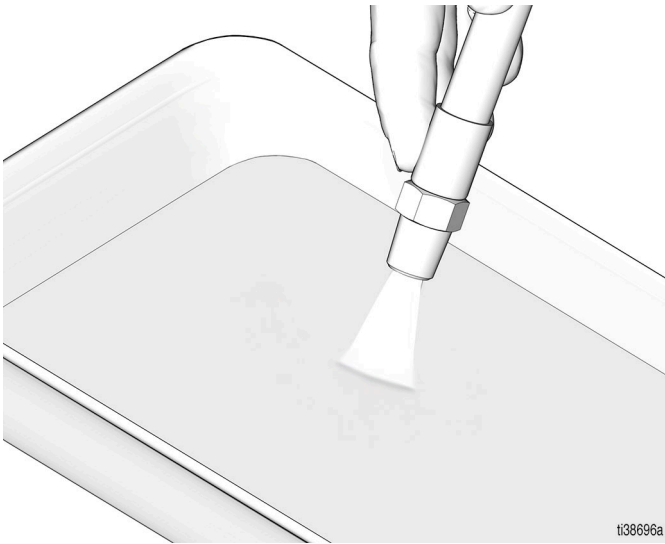

FIG. 4
3. Flush the fluid being dispensed through the equipment until the fluid runs clear (FIG. 4).